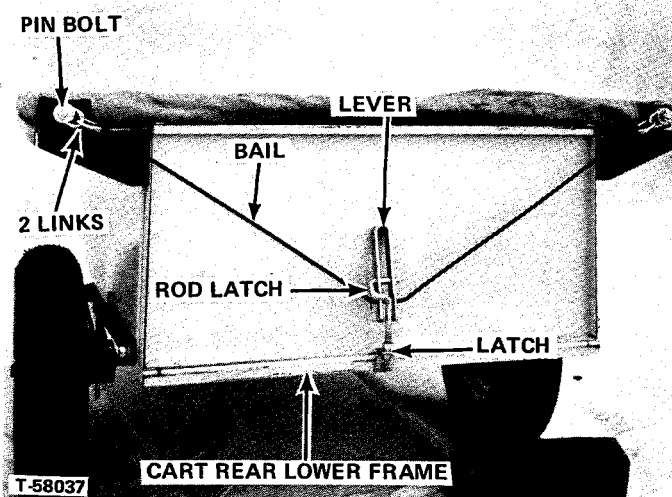

FIGURE 18
10. (See Figure 18). Assemble second bail, lever, latch, rod latch at rear of cart using 2 links on each end of bail and hooking latch under the cart rear lower frame. Adjust latch as directed in step 9 above to hold the pin bolts and cover reinforcement bars in place when lever is raised as shown in Figure 18.